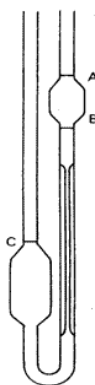

Fig. 2. Ostwald Viscometer
2. Clean the viscometer with chromic acid and wash thoroughly with distilled water. Clamp the viscometer vertically in the thermostat. Introduce a definite volume of water into the tube, by a graduated pipette, so as to fill the bend of the tube and at least half of the bulb of the wider tube. When the water in the viscometer will attain temperature of the thermostat then draw the water through the narrow tube above the upper mark (by applying manual suction through the rubber tube). Then allow the water to flow down through the capillary in the viscometer. Start the stopwatch just when the meniscus will pass the upper mark (A in Fig.2) and stop when it will pass the lower mark (B in Fig.2). Repeat it for at least three times and each time note the flow time ( $t_2$ ) in second and take its mean. Take out the